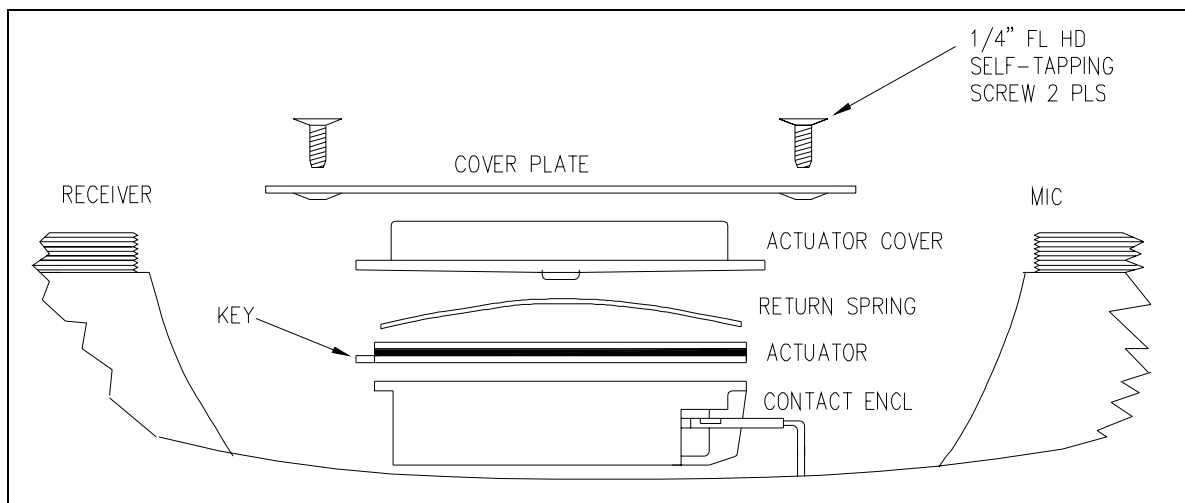

Figure 3. Pressbar Page Switch Detail Drawing
3. Remove the two screws that secure the handset page switch to the handset. Carefully remove the page switch cover plate, actuator cover, return spring, actuator, and contact enclosure from the handset handle. See Figure 3.
6. Install the page switch contact enclosure, actuator, return spring, actuator cover, and cover plate using the screws previously removed. See Figure 3.